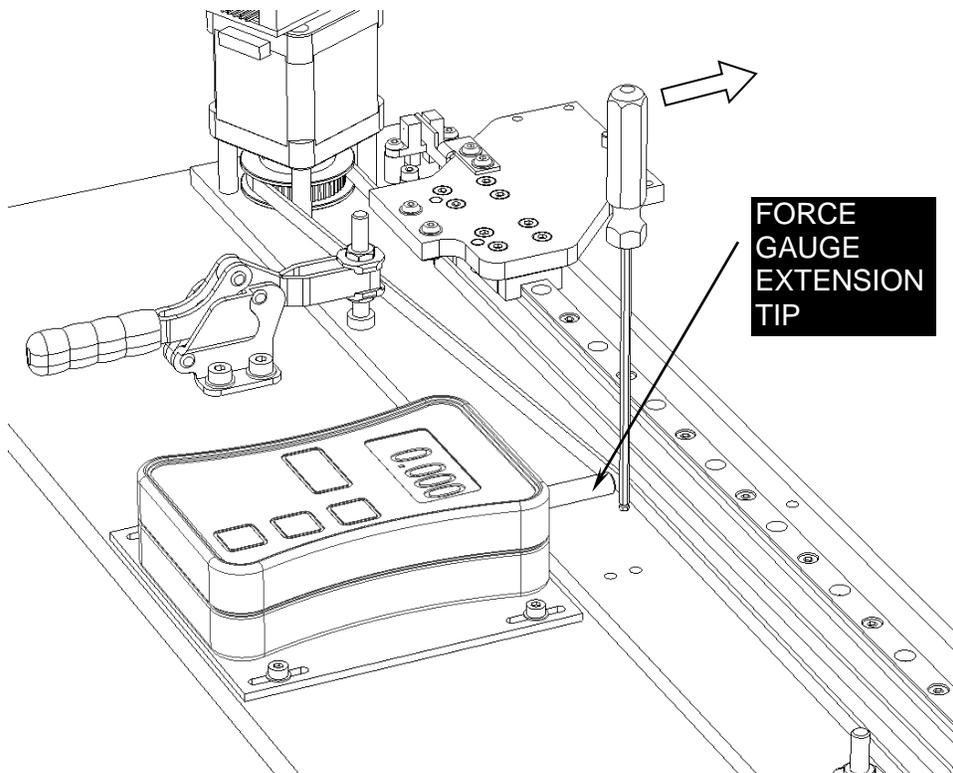

Figure 9-12: Adjusting the Belt
7. Before taking each force reading, gently push the Belt off the end of the Force Gauge Extension Tip by 1 to 2 mm and then reposition it (Figure 9-12). This is to ensure that no sideways force from the belt is being measured.